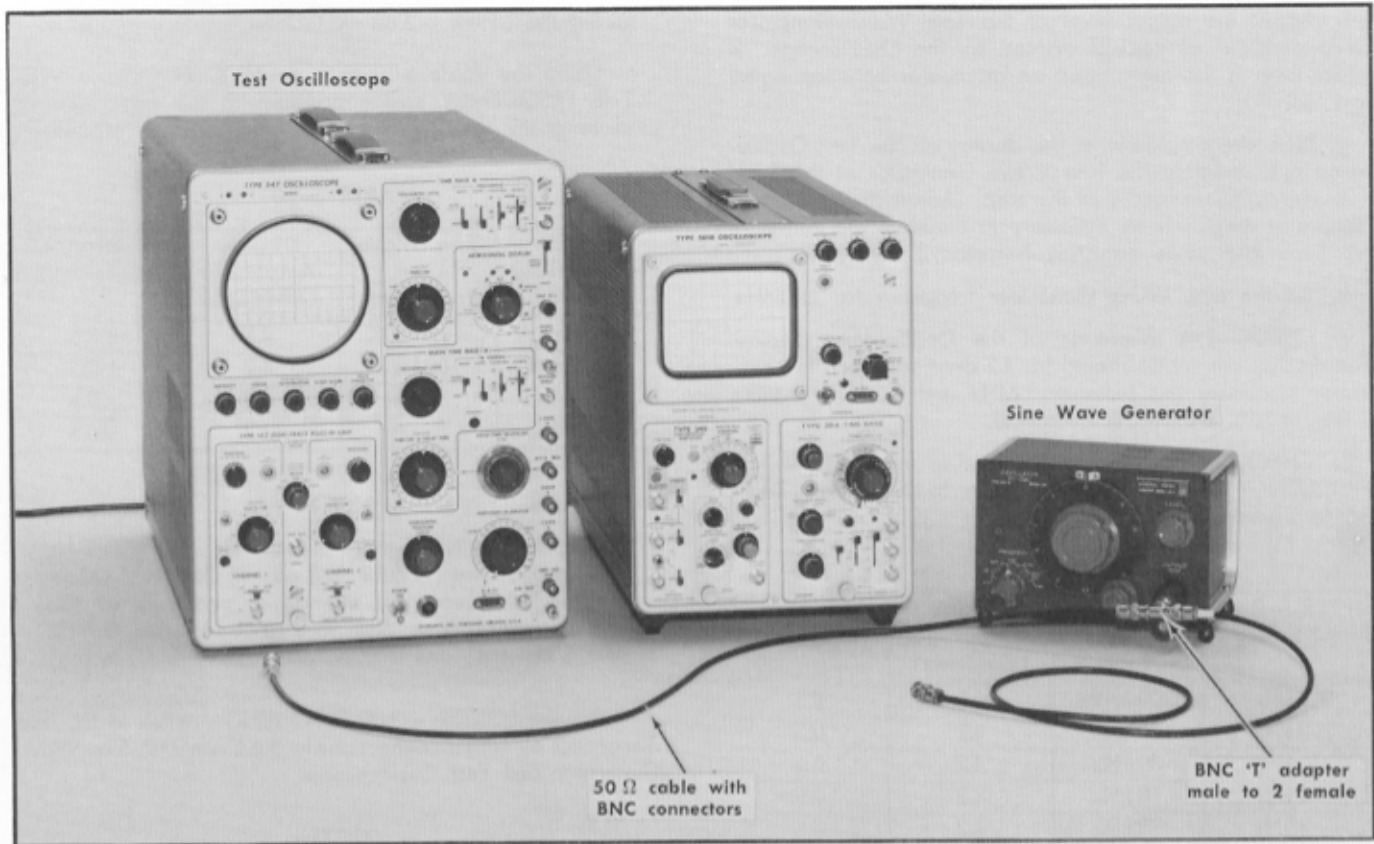

Fig. 5-39. Equipment required for step 33.
- Test equipment is shown in Fig. 5-39.